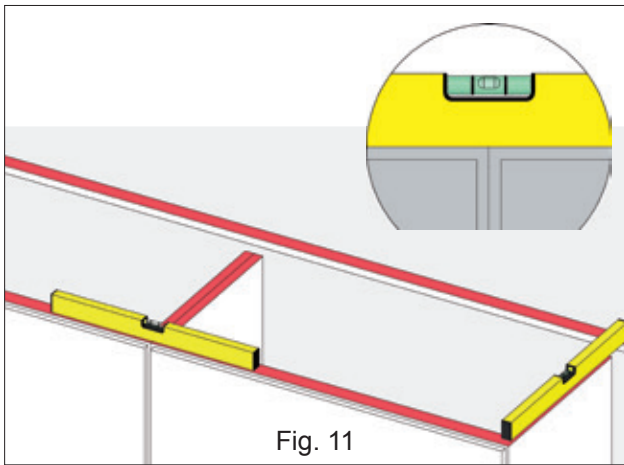

Fig. 11
- 3a. The cabinets should be placed perfectly levelled (**fig. 11 and 12**).